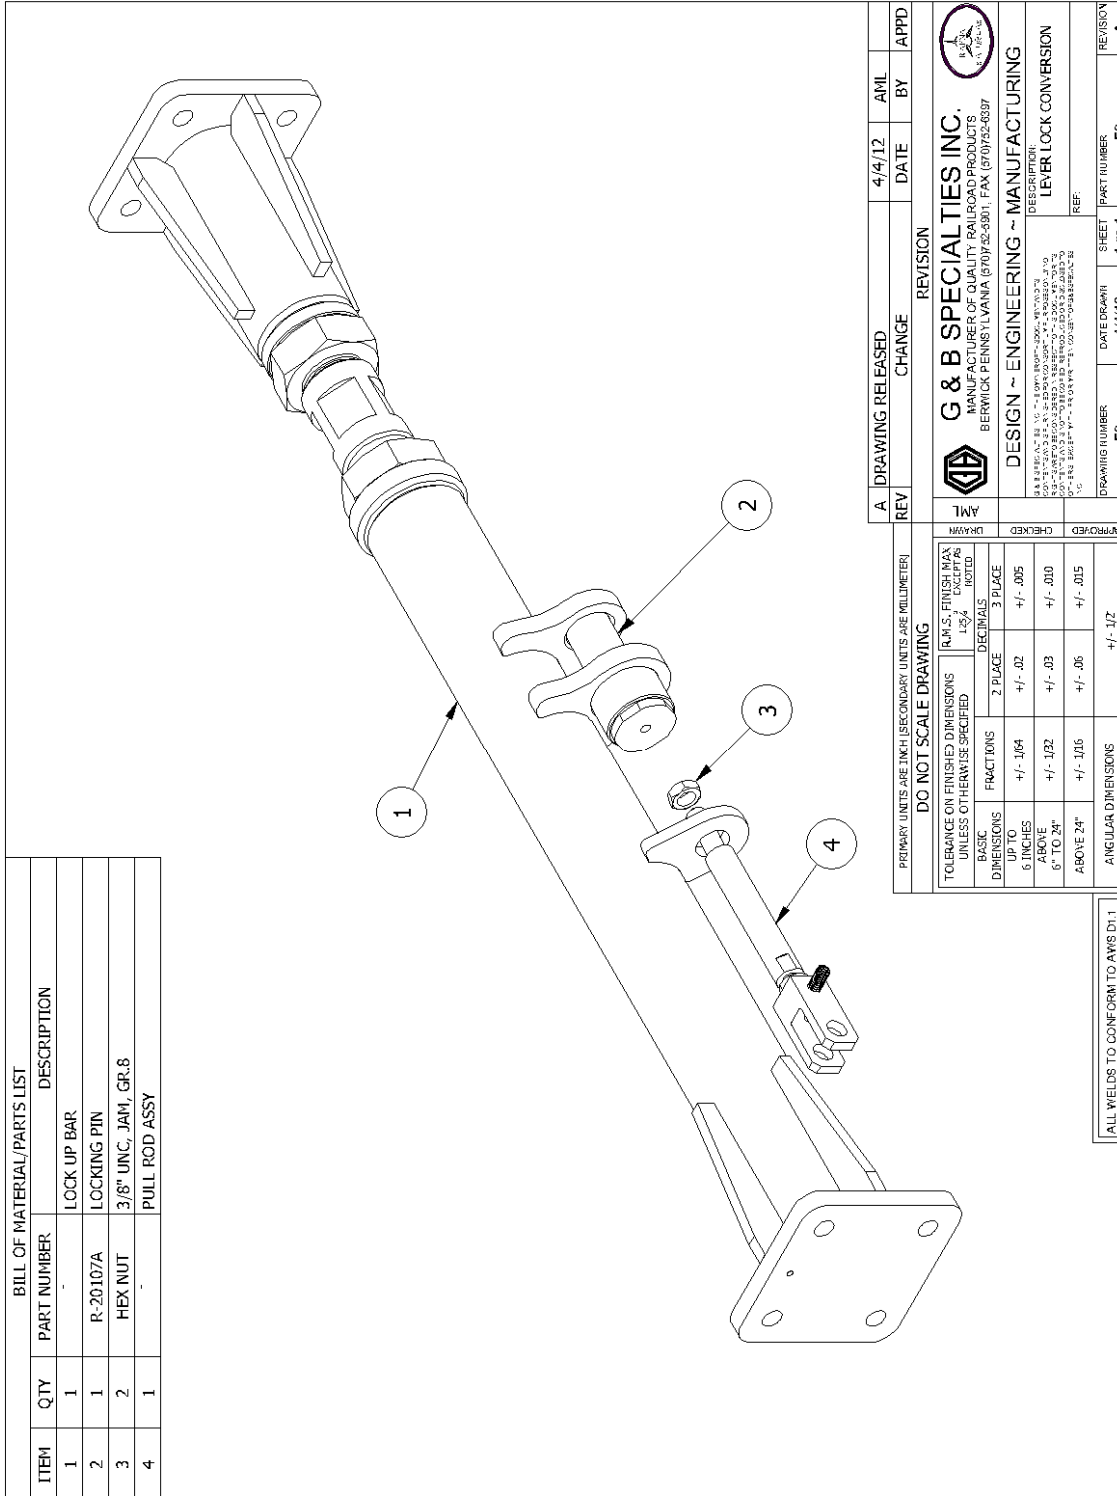

Figure 3
7. Insert new lock pin into pin support (Figure 3)
8. Insert the threaded end of lower pull rod assembly, from step 2, thru the hole in the guide tab, then thread on the jam nut as shown. The Jam nut should be threaded to the bottom of threads on the pull rod assy (Figure 3)